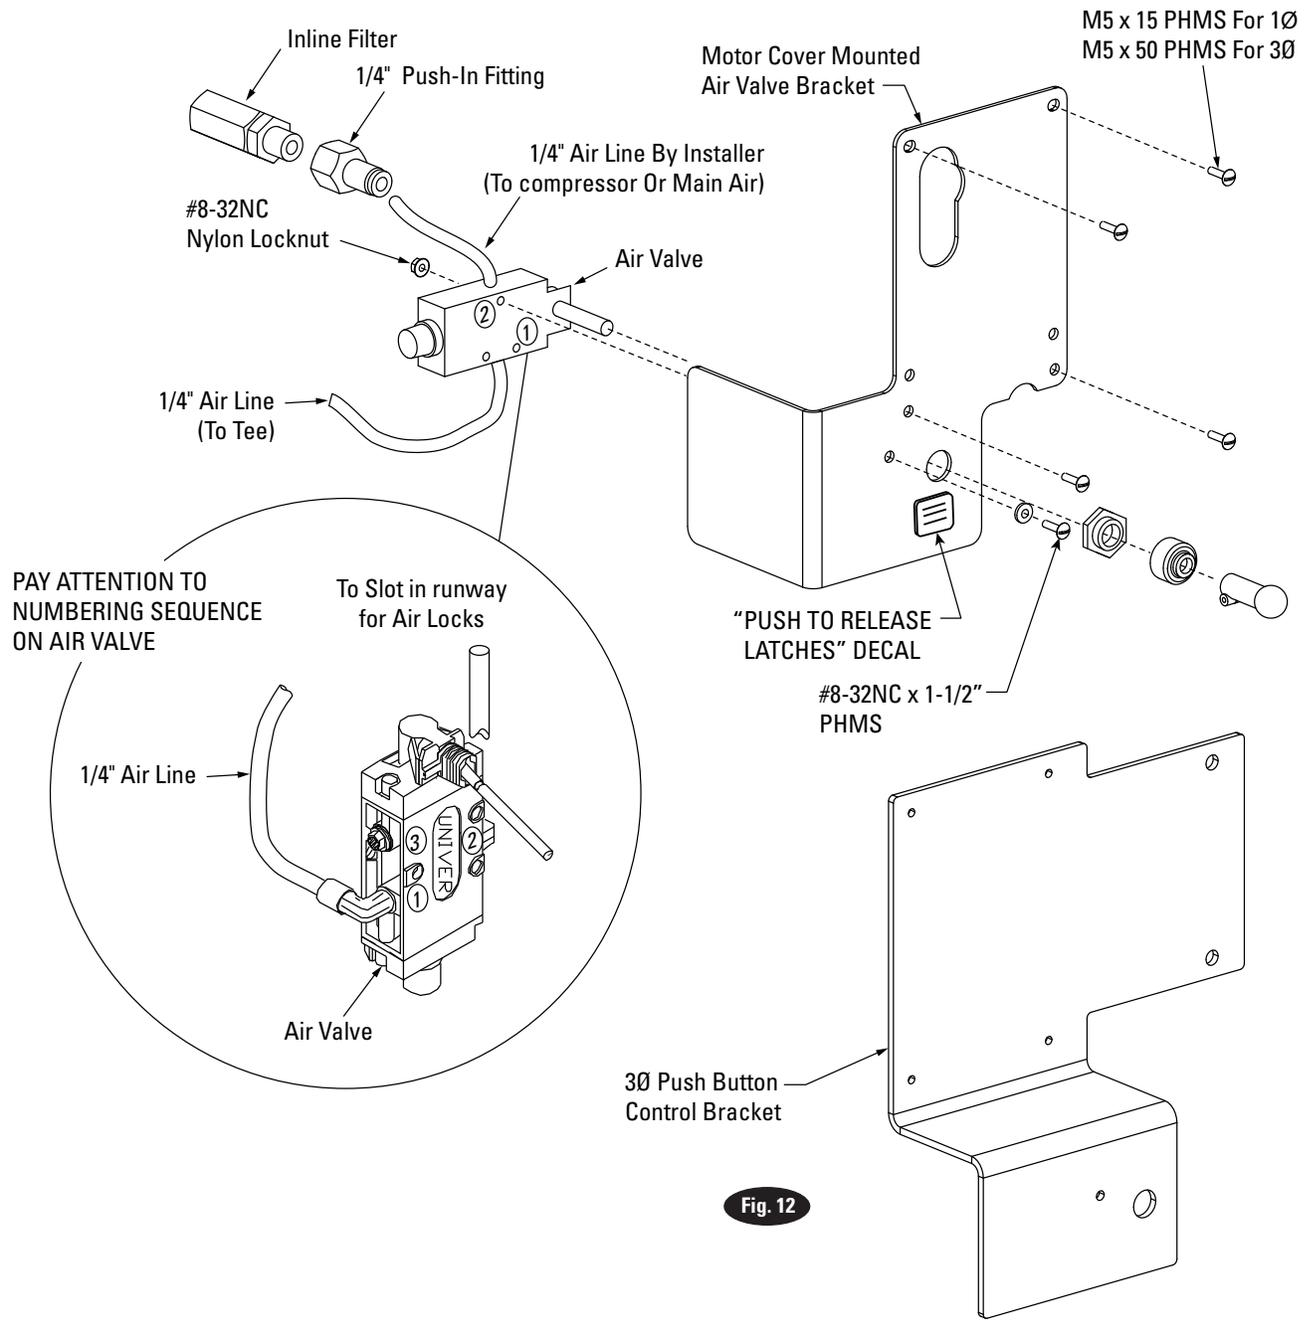
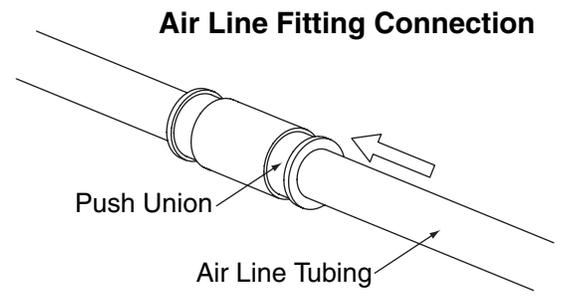

Fig. 12
Fig. 13
1. Attach brass filter and swivel elbows to air latch, Fig. 12.
2. Install latch release air valve to bracket, Fig. 12.
4. Connect shop air supply with factory supplied in-line filter to latch release air valve 1/4" push-in 1/4" NPT fitting, Fig. 12 & Fig. 13.
6. Install "PUSH TO RELEASE LATCHES" decal on bracket under air valve lever, Fig. 12.
8. Connect air line tubing to latch release air valve and to air line attached to vertical hose using push union, in lift containment inlet. Place decal on bracket, Figs. 12 & 13.